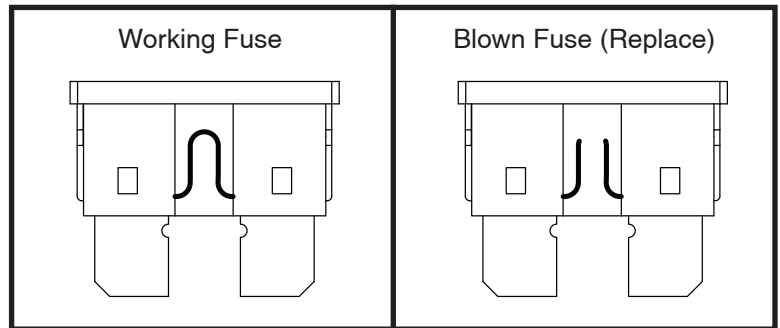

Figure 37. Fuse Replacement
2. Examine the fuse to be sure it is blown. See figure 37.